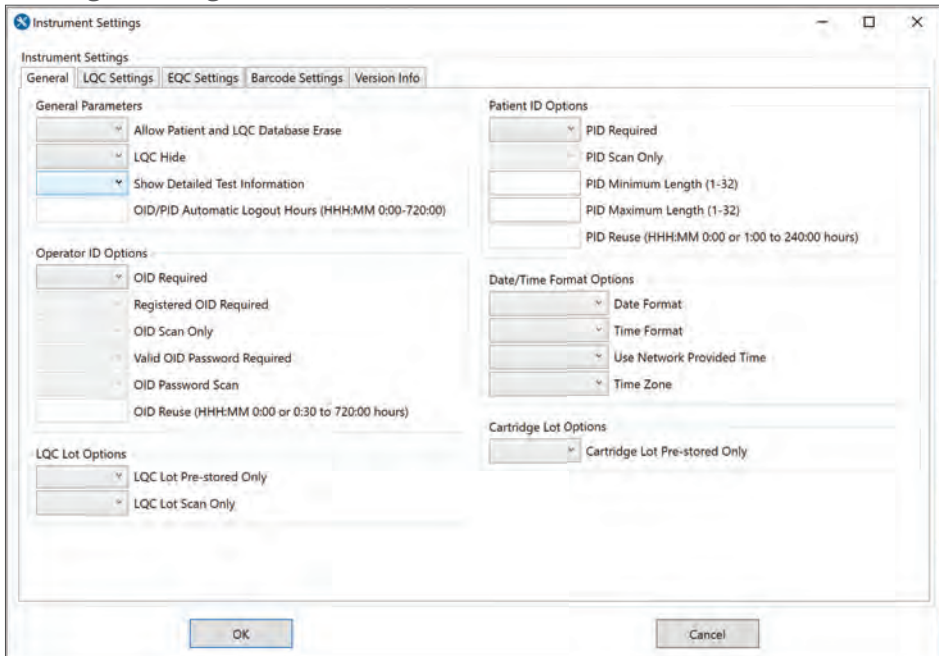

Figure 103: CCM – General Settings Dialog Box
The **Instrument Settings** dialog box (Figure 103) is displayed.
- **General** – See Figure 103 and Table 14 (page 91).